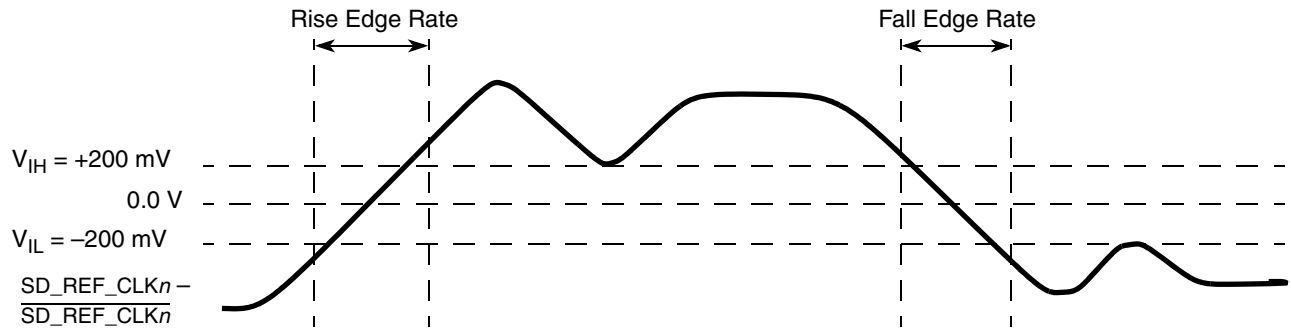

Figure 37. Differential Measurement Points for Rise and Fall Time
- Measured from -200 mV to +200 mV on the differential waveform (derived from SD_REF_CLK n minus $\overline{\text{SD_REF_CLK}}_n$). The signal must be monotonic through the measurement region for rise and fall time. The 400 mV measurement window is centered on the differential zero crossing. See Figure 37.